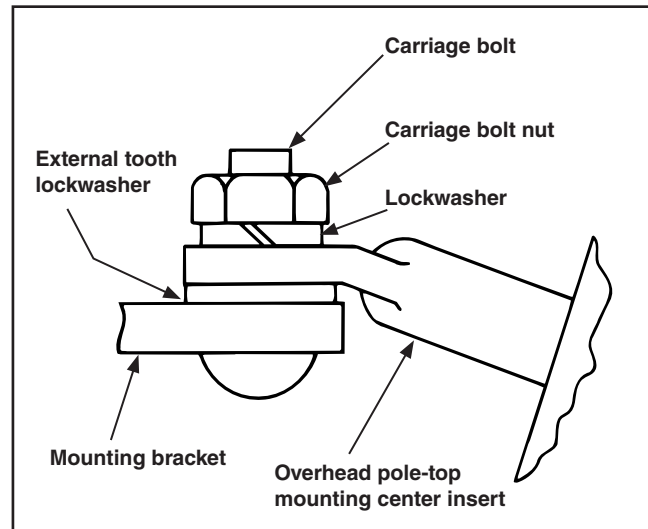

Figure 3. Attaching Overhead Pole-Top Style TripSaver Dropout Recloser mounting to mounting bracket.
STEP 1. For Overhead Pole-Top Style TripSaver Dropout Reclosers: Attach the mounting to its mounting bracket as illustrated in Figure 3. A mounting bracket—suitable for crossarm, pole, or wall mounting—is furnished only if specified through the addition of suffix “-B” or “-C” to the TripSaver Dropout Recloser catalog number. Note the placement of the external-tooth lockwasher between the mounting bracket and the center insert of the mounting. Pivot the mounting to a position that will provide maximum ease of operation, then securely tighten the carriage bolt nut.